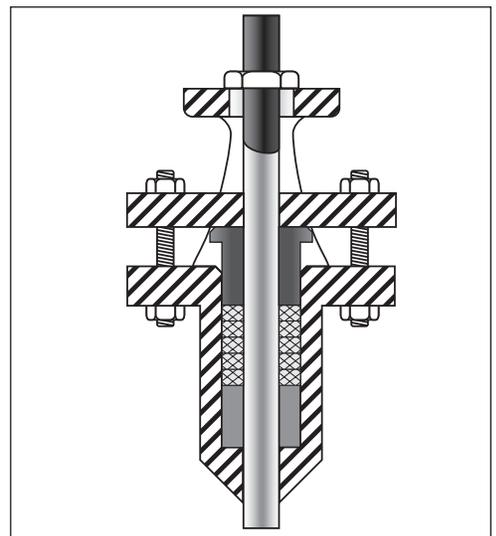

Figure 4: Equipment Start-up
26. Ready for start-up (Figure 4).